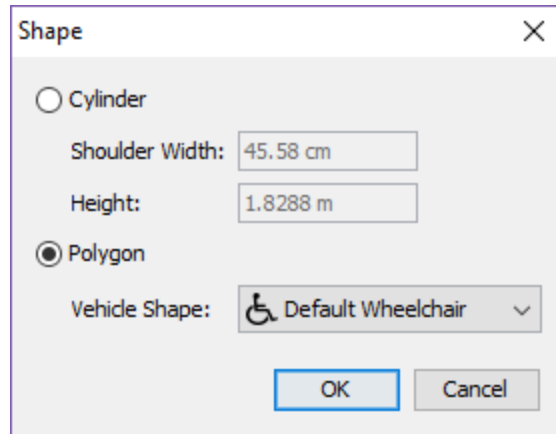

Figure 126. The Shape Dialog where a user may select a vehicle shape for a client
- Choose a **Vehicle Shape** for the client (see Section 5.1.9 and Figure 126) by editing the **Shape** parameter on the occupant properties panel. *All clients must have a vehicle shape* (see Section 5.2). Either choose a default shape or define a custom shape with user-defined positions for assistants.